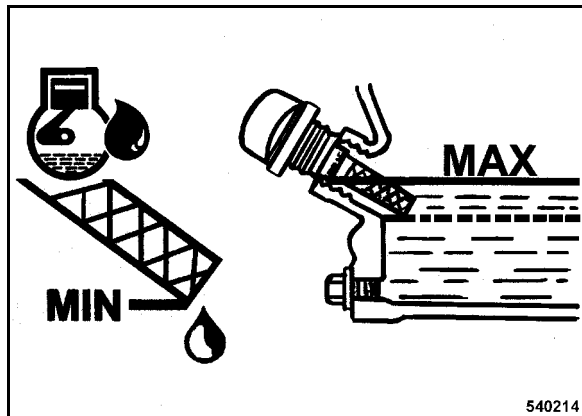

Fig. 34
- The oil level must reach the bottom edge of the filler bore (Fig. 34), maximum level.